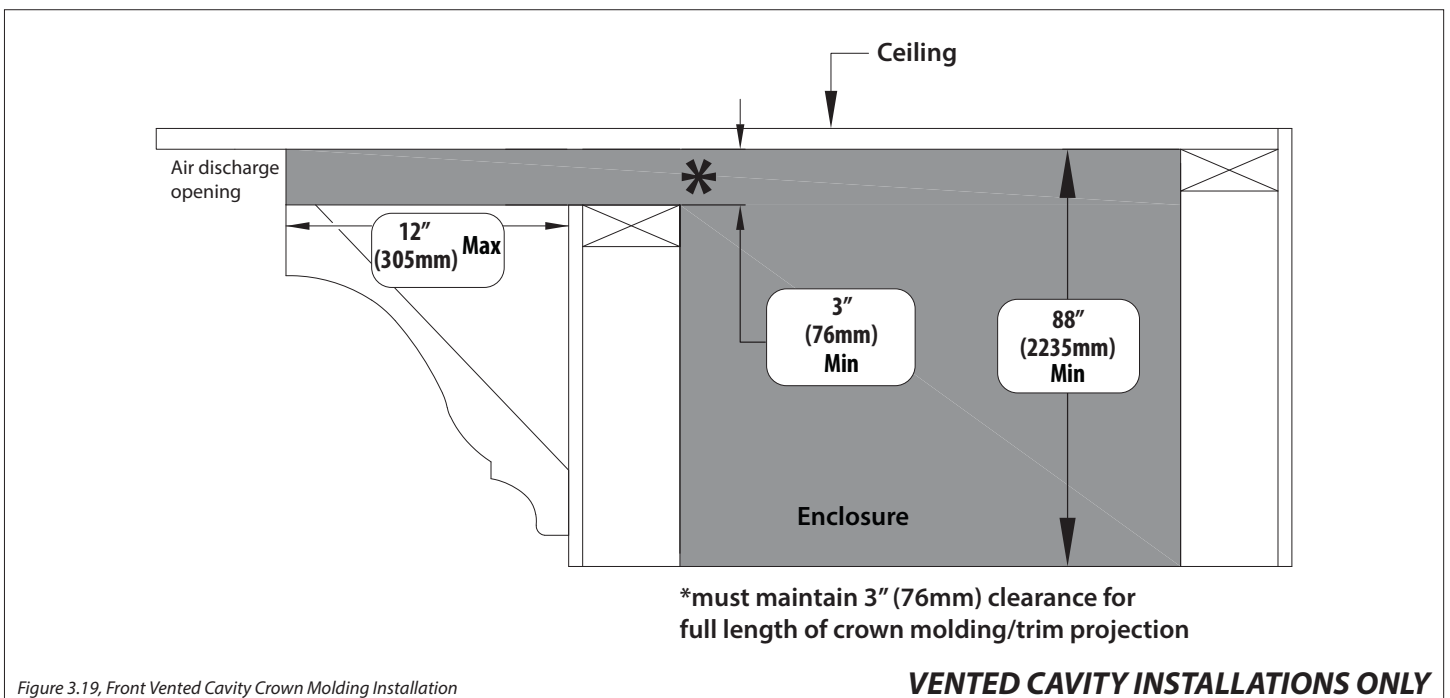

Figure 3.19, Front Vented Cavity Crown Molding Installation
- Figure 3.19 shows the installation of crown molding or similar trim work that goes up to the edge of the air discharge opening. 12" (305mm) is the maximum length of the molding or trim projection and you must maintain 3" (76mm) clearance for the full length of crown molding/trim projection. This molding or trim cannot decrease the minimum opening requirement.